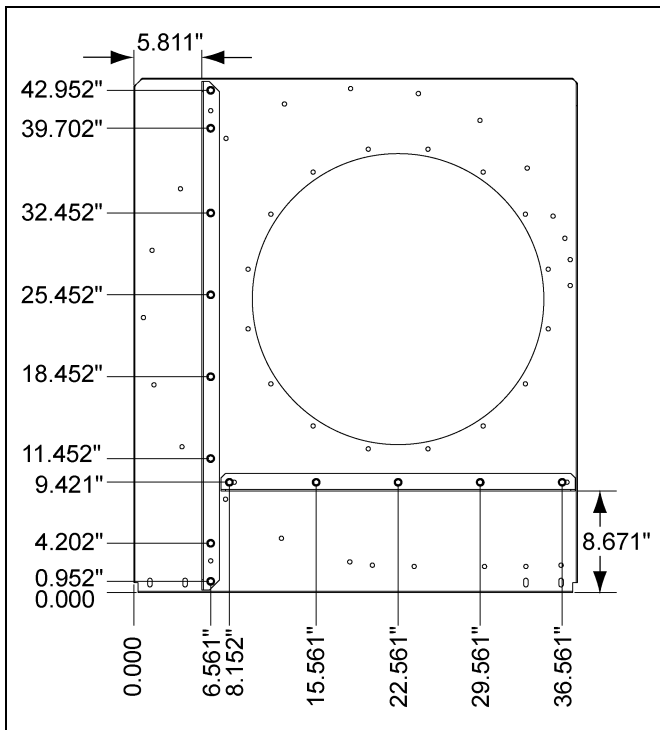

Figure 4A Retrofit Kit (C-8847)
4. Drill the holes through the inlet face according to the Figures 4A-4N on Pages 13-16.